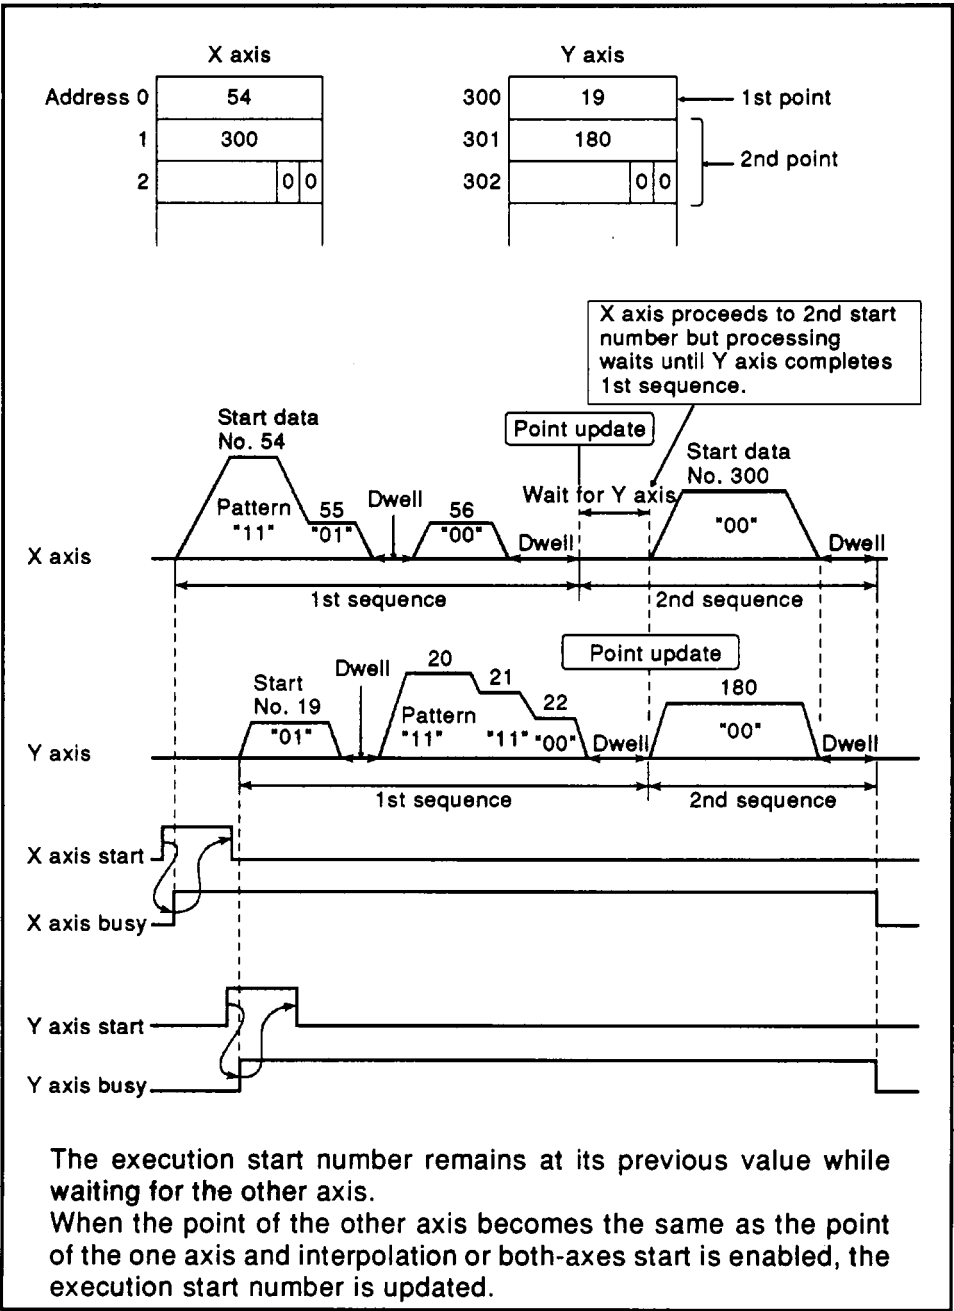

Fig. 3.35 Start Data Example 5
- 5) In a situation where interpolation (00) or independent (11) start has been defined at one axis and the other axis is still positioning, processing will vary as described below.
- An axis will wait for the other to finish its current process or for its busy signal to turn off. This is illustrated in Fig. 3.35 below.